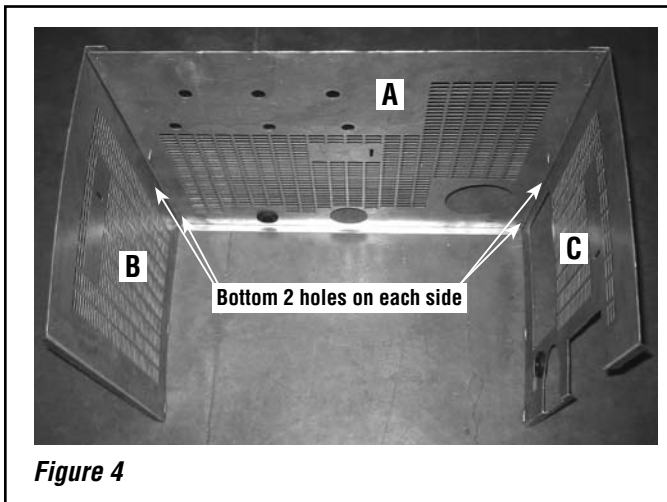

Figure 4
Step 3. Assemble the perimeter (see Figure 4) - Using only the bottom 2 holes on each side, screw the left side panel (B) and the right side panel (C) to the back panel (A).